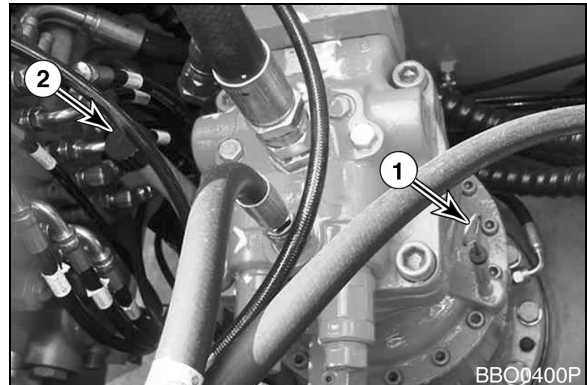

Figure 21
1. Remove dipstick (1, Figure 21) and wipe the oil from the dipstick with a cloth.
2. Insert dipstick (1, Figure 21) fully in the guide.
4. If the oil does not reach the "L" mark on the dipstick, add oil through fill port (2, Figure 21).